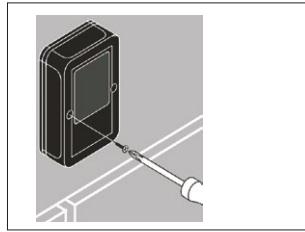

Fig. 8
- 8 - Mount the cover using the the screws supplied ( Fig. 8).